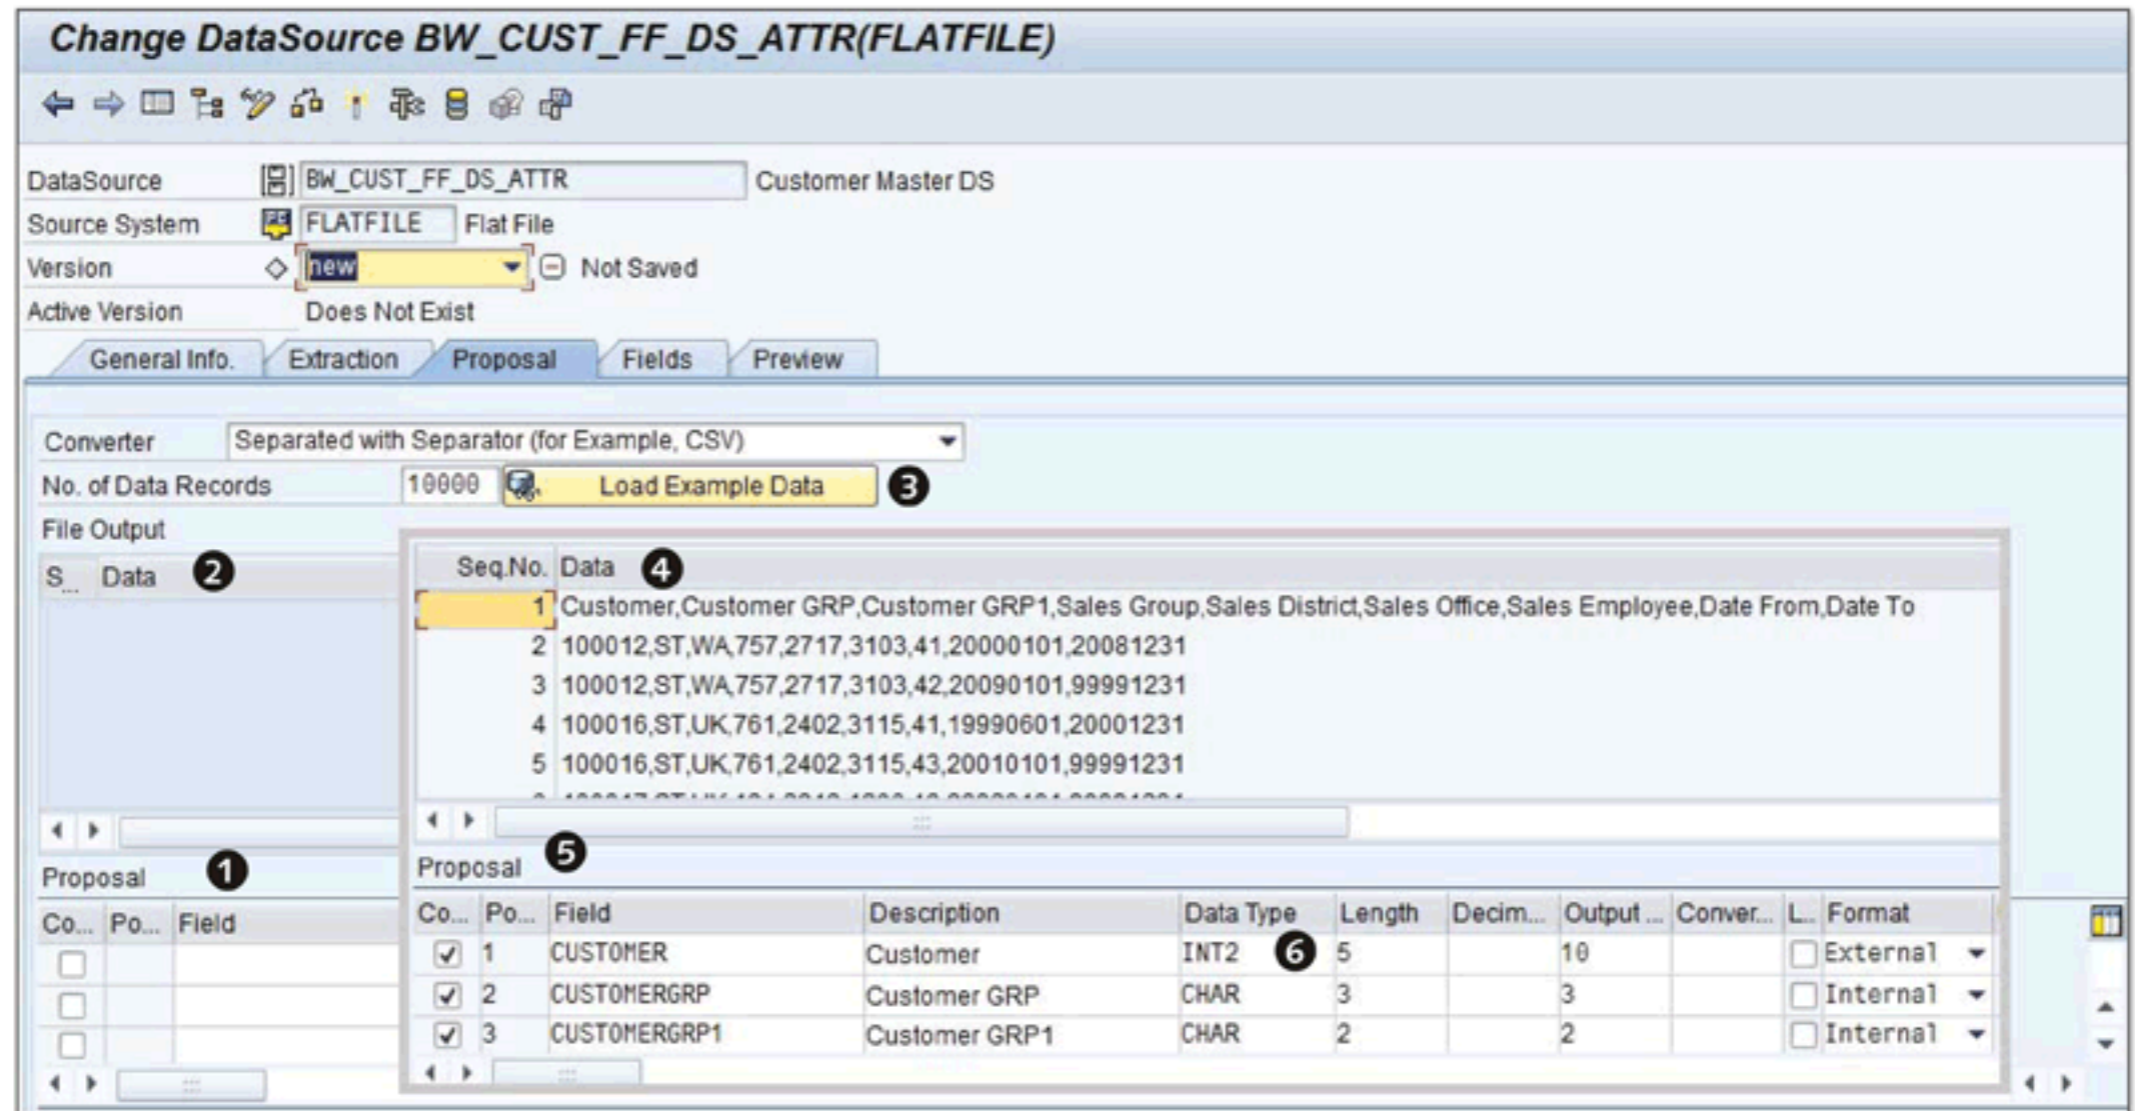

Figure 7.13 Create DataSource: Proposal Tab
The PROPOSAL tab (Figure 7.13) reads records from the file you specified in the EXTRACTION tab and proposes the structure for the flat file and the technical specification of each field. The proposal given is solely based on the data available in the file and may not be 100% accurate.
As shown in ❶ and ❷ of Figure 7.13, the PROPOSAL and DATA areas of the screen are empty in the beginning. Click on LOAD EXAMPLE DATA (❸). By default, SAP NetWeaver BW sets the number of data records to be read as 10,000. Reduce the number to 10 or 12 because that's all you need from the flat file to report anomalies in structure.
When you click LOAD EXAMPLE DATA, the DATA and PROPOSAL areas are filled with information (❹ and ❺ of Figure 7.13). You can see from ❻ of Figure 7.13 that the first field's data type is INT2, and the length is 5. As you may recall, our definition of InfoObject BW_CUST listed the data type as CHAR = 10 (refer to Chapter 3), but the proposal given by the system is INT2 because the data available in the file is numerical. We'll describe how to change this incorrect information when we explain the FIELDS tab (next section). Even if some of the data is wrong, using the proposal function provides the list of fields in the correct sequence, so it's still useful.